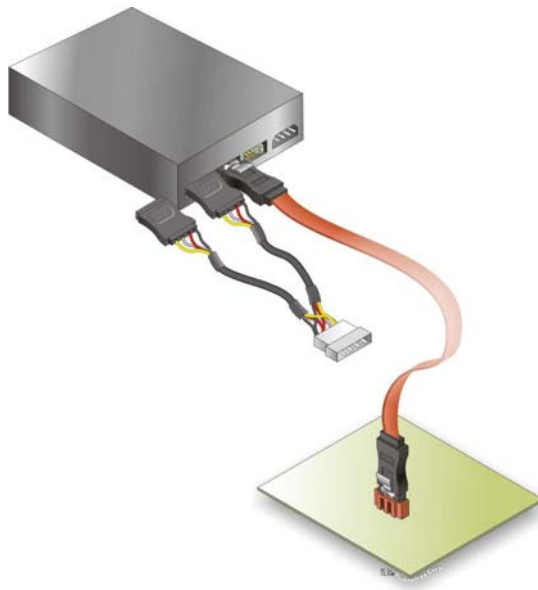

Figure 4-17: SATA Power Drive Connection
Step 3: Connect the cable to the SATA disk. Connect the connector on the other end of the cable to the connector at the back of the SATA drive. See **Figure 4-17**.
Step 4: Connect the SATA power cable. Connect the SATA power connector to the back of the SATA drive. See **Figure 4-17**.